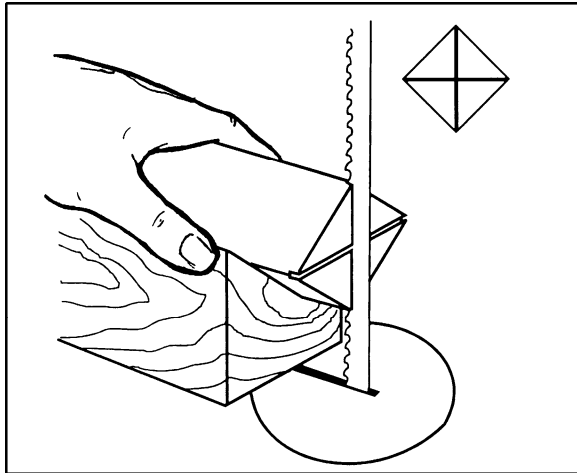

Figure 23
2. Extremely hard woods may require kerfs cut into the ends of the stock (Figure 23) using a band saw, so the wood will accept the spur center and the live center.